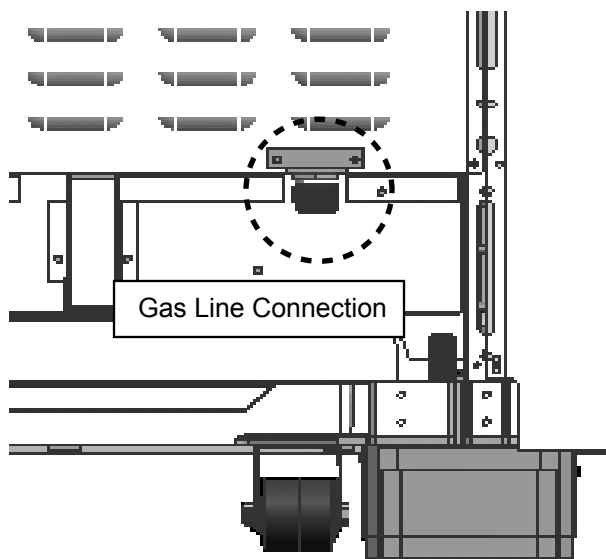

Figure 14: Manifold Gas Line Connection
- Use 3/4" (19mm) flex line to connect between the gas supply and the appliance inlet pipe, which exits the rear, lower right of the appliance. The appliance pipe connection has a 3/4" (19mm) NPT external thread and a 1/2" (13mm) NPT internal thread (see *Figure 14*).